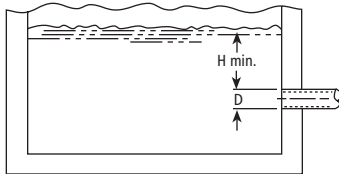

Figure 1
- 3.6. Size of inlet from liquid source, and minimum submergence over inlet, must be sufficient to prevent air entering pump through vortexing. See Figures 1 through 4.